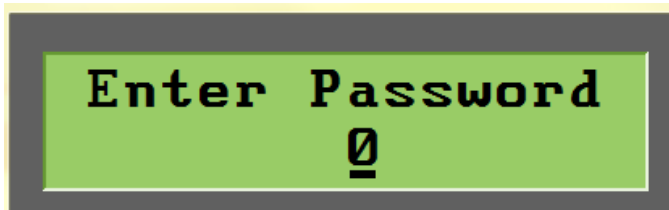

Figure 5-1. Password Screen
1. Press “ENTER” on the keypad of your fixed mount ultrasonic unit. The text in Figure 5-1 will be displayed.